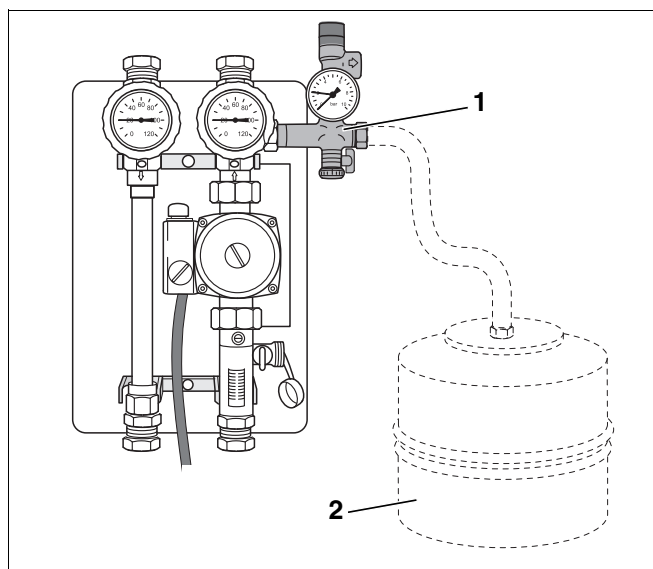

Fig. 8 Connecting the expansion vessel
A 25 litre expansion vessel (7739 300 119) (Fig. 8, **Item 2**) is available as an accessory.
- Connect the expansion vessel (Fig. 8, **Item 2**) into the return of the safety assembly (Fig. 8, **Item 1**) of the solar heating station.
- Install the expansion vessel (Fig. 8, **Item 2**) with suitable fixing material.